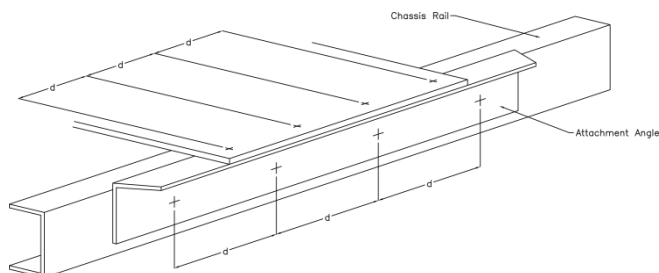

Figure 11: Fifth wheel angle and base plate bolt spacing
- Ensure there are at least four M20 (3/4") or six M16 (5/8") of at least ISO Grade 8.8 (SAE Class 5) bolts per side (see Figure 11):
- Ensure bolt spacing (see Figure 11) between the fifth wheel angles and the chassis is within the range of:
- If bolted, use at least four M20 (3/4") or six M16 (5/8") bolts of at least ISO Grade 8.8 (SAE Class 5) or stronger per side (see Figure 11):
- Ensure the bolt spacing between the base plate to the fifth wheel angles (see Figures 11 and 18) is within the range: